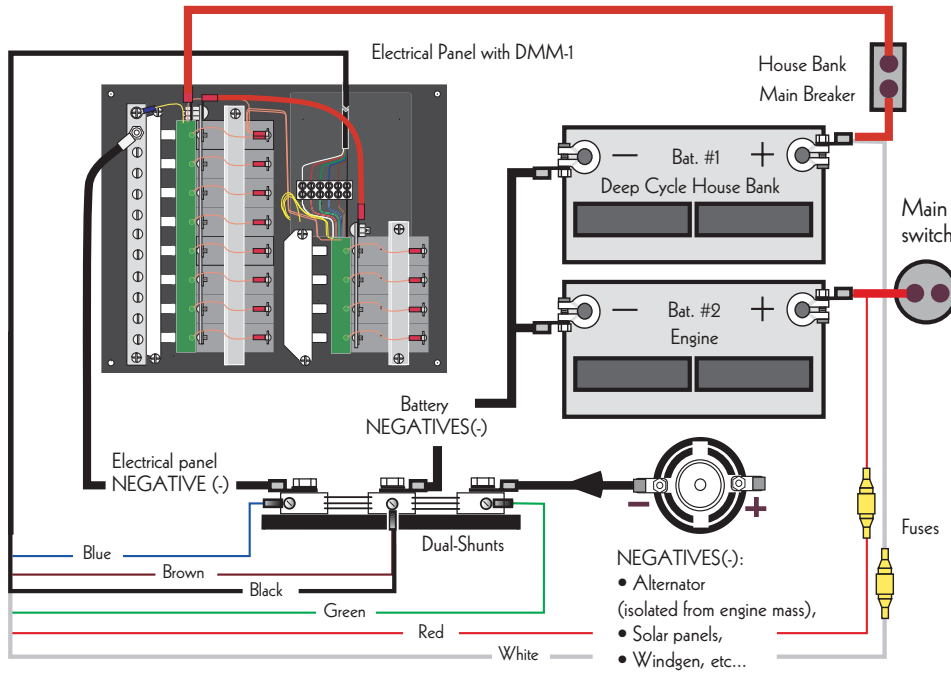

Figure 5: Installation for separate from mass alternator Negative(-)
Figure 5 show the best installation diagram if you have Alternator (s) Negative (s) (-) Output(s) ISOLATED from the Engine (s) Mass.
If it is not possible to have a separate Negative (-) Output (s) from the alternator (s), you can use the Figure 5 Installation for small Engines with 4 cylinders and less, only, where you have Alternator Negative (-) Output connected to the Engine Mass. You install as in following steps except you will monitor alternator output through the shunt, installed inline with the Black Engine Mass Cable.
- You may have equipment (s) negative (-) (s) which are not connected to the Distribution Panel discharge shunt but rather on the Engine mass, boat keel or hull or RV frame instead. All the measured current must pass through the Charge and Discharge Shunts in line with the Negative Battery Wiring. The slightest leak between the alternator, chargers NEGATIVES or engine mass, connected to the charge shunt, and any discharging devices can cause errors or falsify readings of the separate charging or discharging circuits. It is therefore very important to have wiring connected as in Figure 5, 6 or 7.